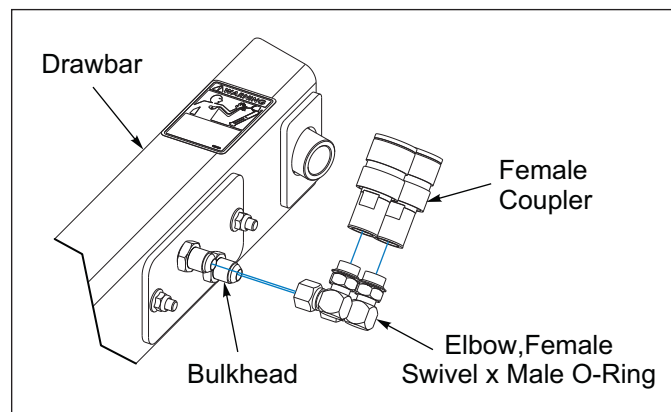

Figure 2-11: Female Coupler Installation
1. Install a Female Swivel x Male O-Ring Elbow Fitting onto each Drawbar Bulkhead. See Figure 2-11.